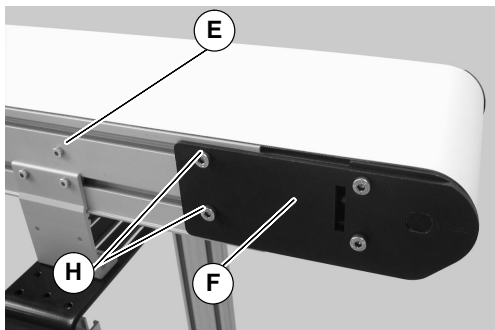
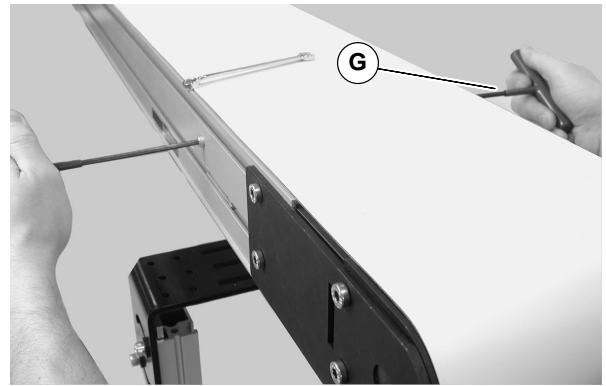

Figure 28
Figure 29
13. On tension end of the conveyor, identified by the pinion locking screw (E of Figure 28), loosen the two tail clamp bolts (H), on both sides of conveyor.
14. With 5mm hex wrench, hold pinion torque screw (G of Figure 29). Loosen the pinion locking screw (E of Figure 28) and turn the pinion torque screw (G) to extend head plate assembly.
16. After adjusting proper tensioning, tighten the pinion locking screw (E of Figure 28) to 69 in-lbs (7.8 N-m), and tighten tail clamp bolts (H of Figure 8) on both sides of conveyor to 146 in-lb (16.5 N-m).